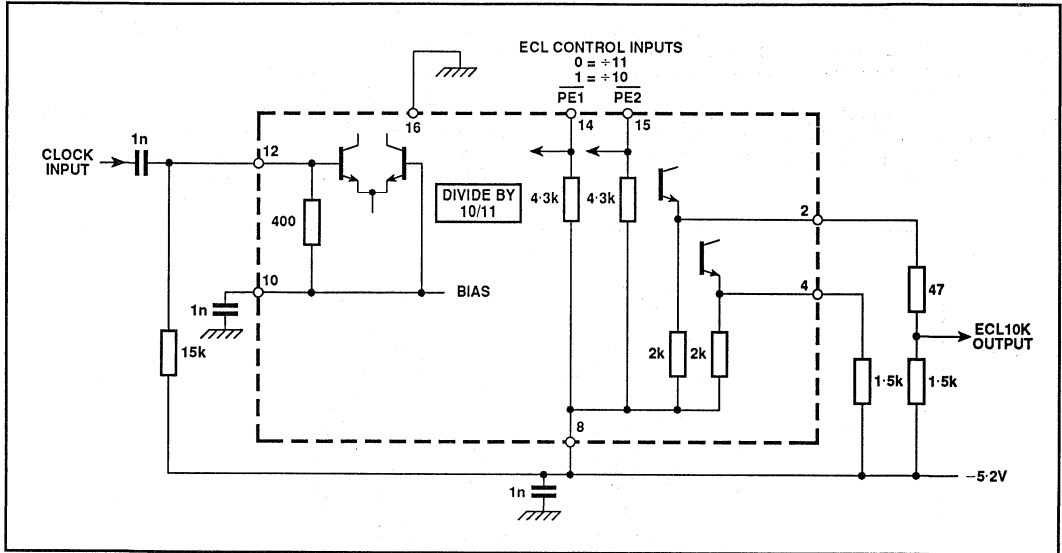

Fig. 7 Typical application showing interfacing
4. The outputs are compatible with ECLII but can be interfaced to ECL10K as shown in Fig. 7.